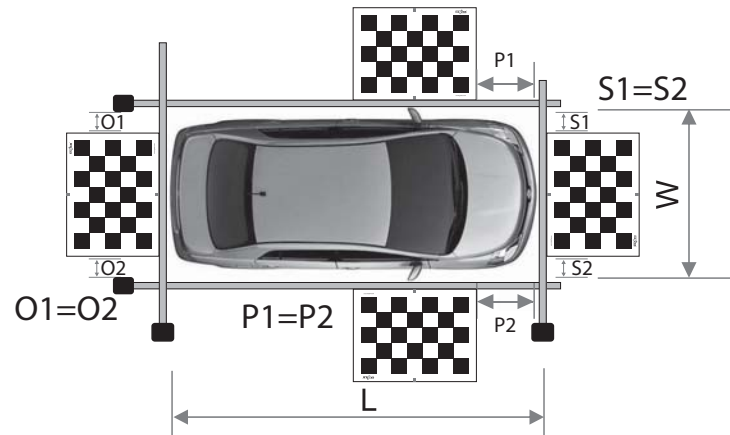

Fig. 4
1. Place calibration sheets in front of each camera as shown in the diagram below (Fig. 4). Red marks on the front and rear calibration sheets must be aligned with the car's central axis. Red marks on side calibration sheets must be aligned with the car's wing mirrors (mounting seats inside the mirrors).
2. Measure distances  $L$ ,  $W$ ,  $P1$ , and  $P2$  (Fig. 4)